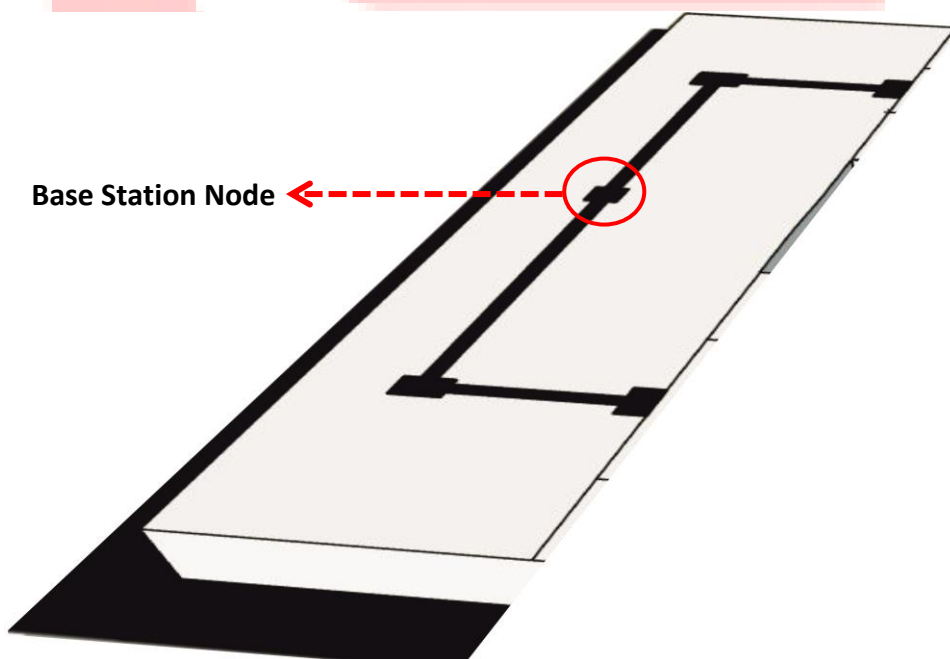

Figure 3: Base Station
3. **Base Station:** this region comprises of a Base Station Node representing the end point for navigation as shown in Figure 3.